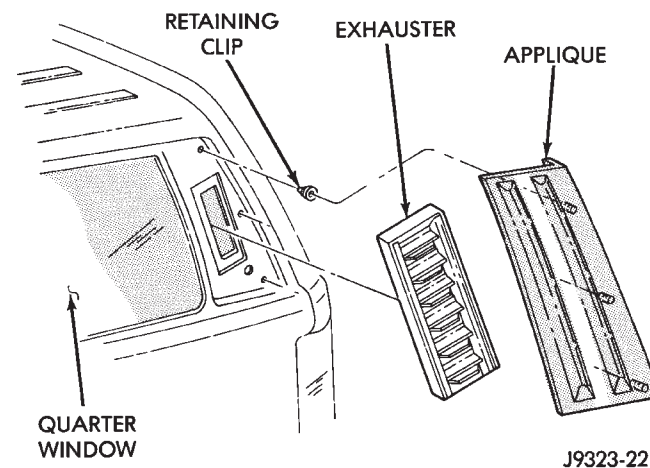

Fig. 30 Quarter Window Applique & Air Exhauster
(1) Carefully pry applique from panel (Fig. 30).
(2) Carefully pry air exhauster from upper quarter panel using a flat blade screwdriver.
(1) Reseal air exhauster using foam tape.
(2) Install air exhauster on panel.
(3) Position applique on panel with retainers aligned (Fig. 30). Press applique firmly in place.